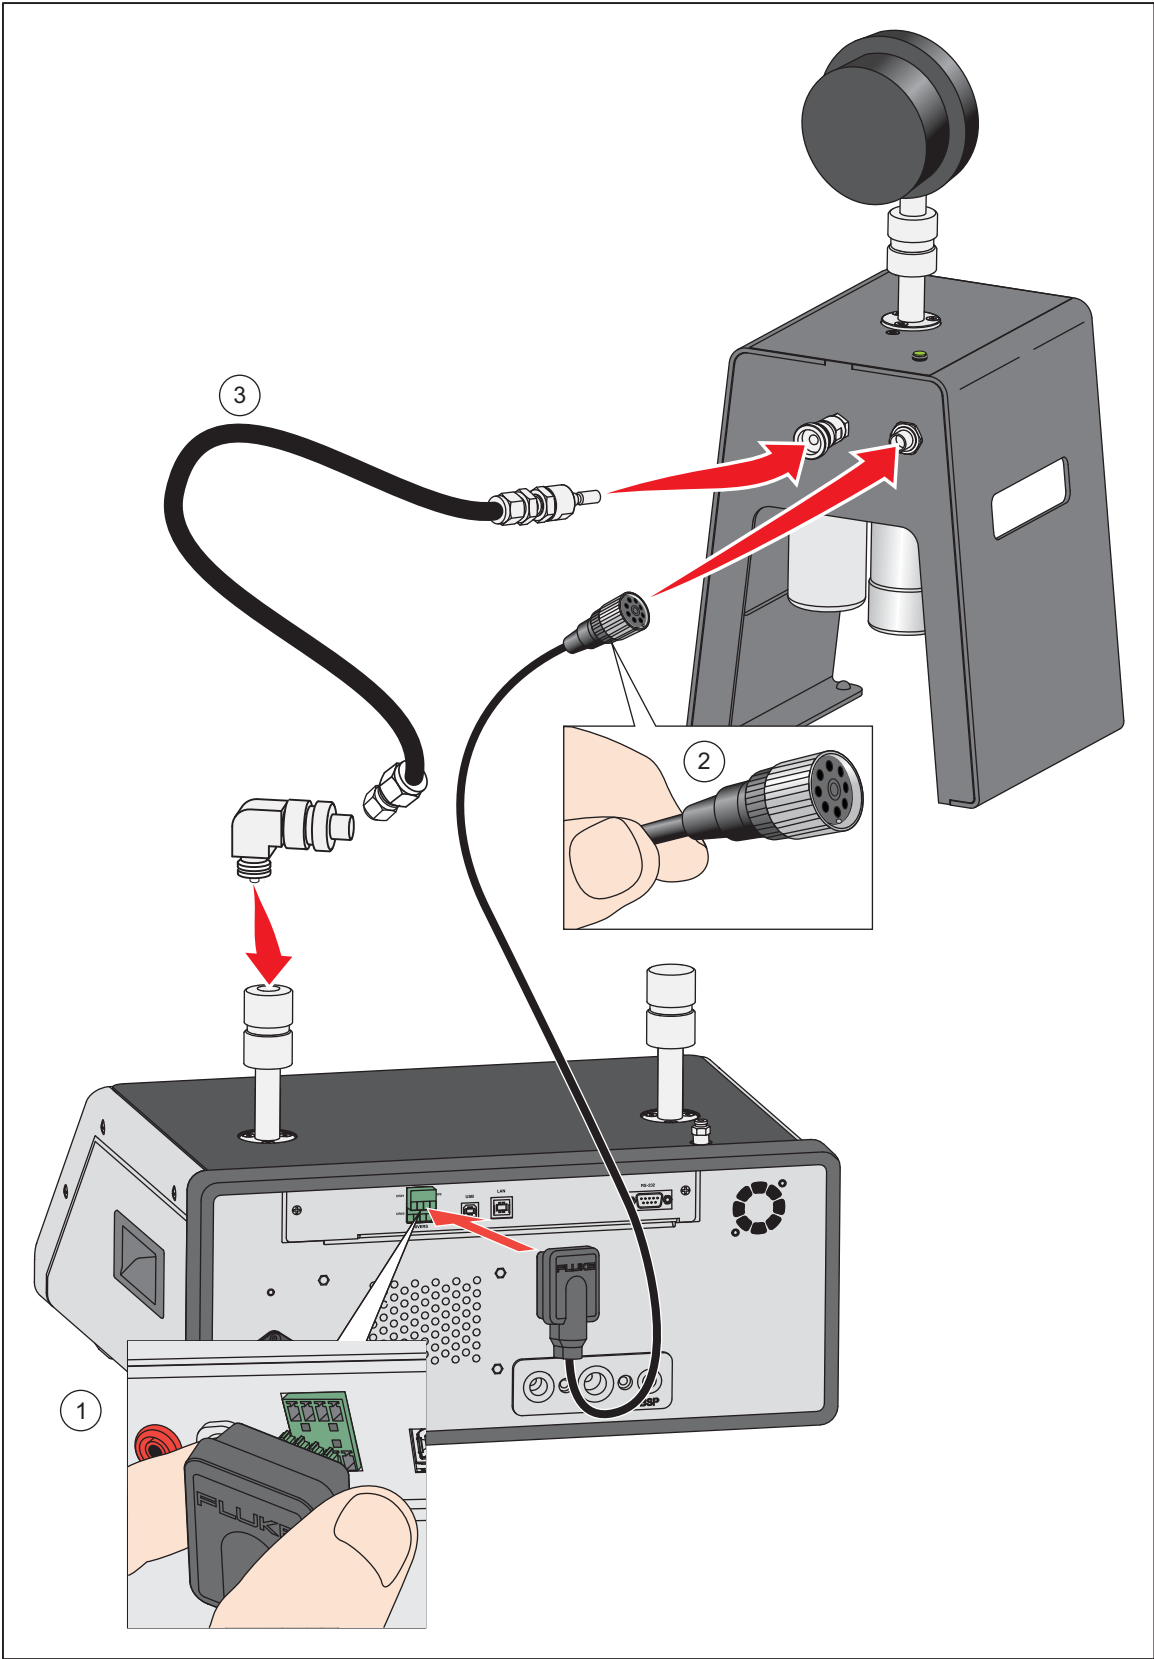

Figure 17. CPS Driver and Manifold Connections
1. Place the CPS on a solid surface near the Product. The CPS is heavy enough to sit on a bench and if desired, can be bolted to a bench. See Figure 17 for connections. Observe the correct polarity of the connector to the Product (the brown wire should be on the left of DRV3).
2. Connect the electrical cable from the CPS to the DRV1, DRV2, and DRV3 connections on the back of the Product. The connector ensures that the CPS is connected correctly. See Figure 17.